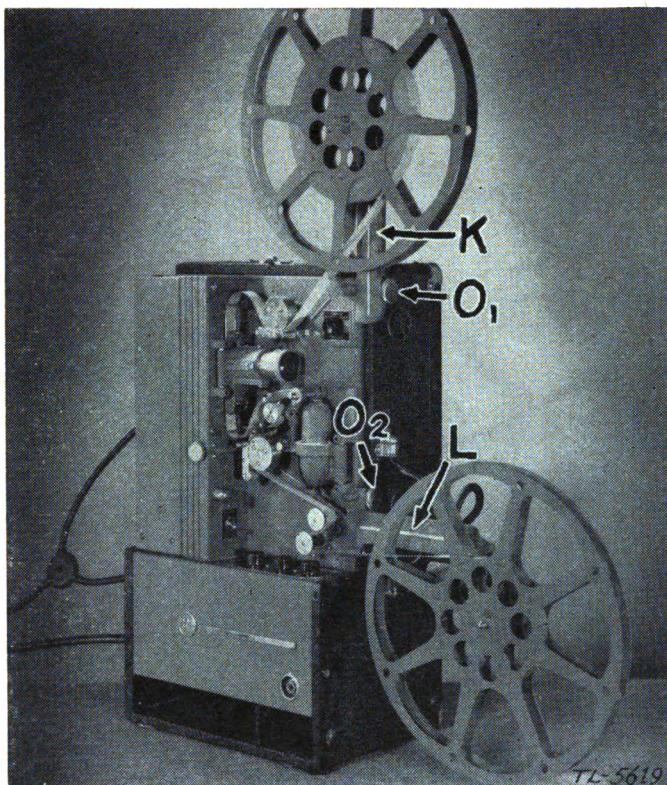

FIGURE 8.—R. C. A. projector ready for operation.
(4) *R. C. A.* (fig. 8).—*(a)* Remove projector case cover.